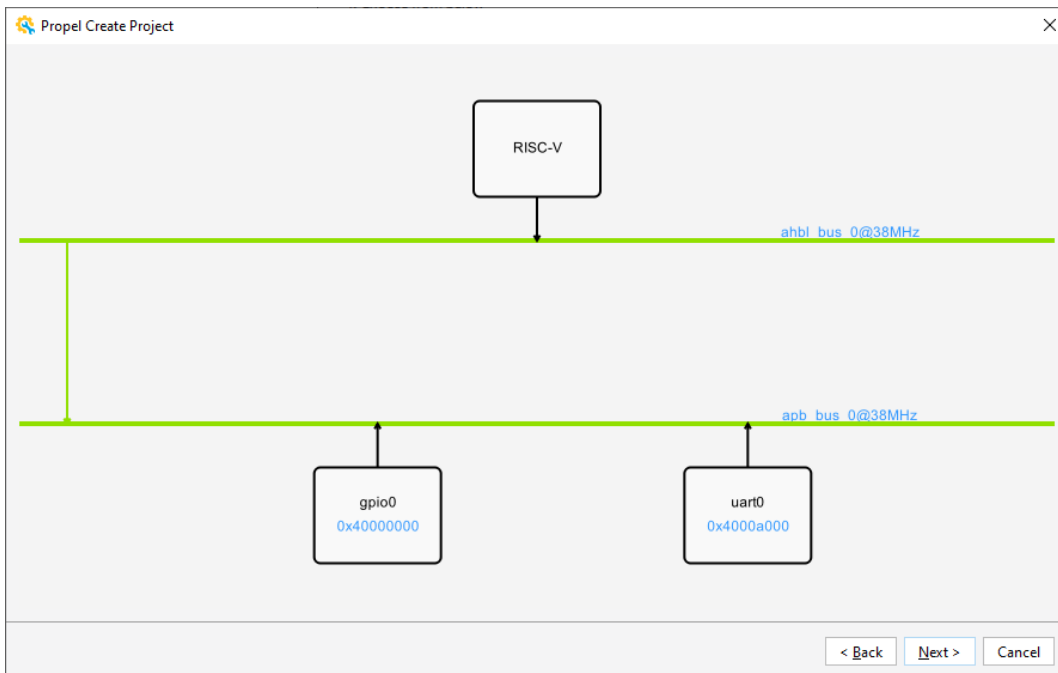

Figure 6.8. Architecture Page
- Click **Next** on the architecture page (Figure 6.8).